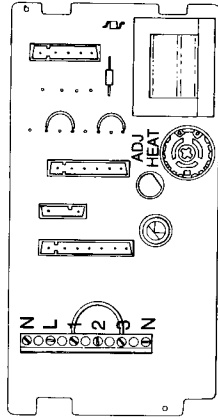

Fig. 3
- Connect the other ends of the wires as detailed below. (fig 3)